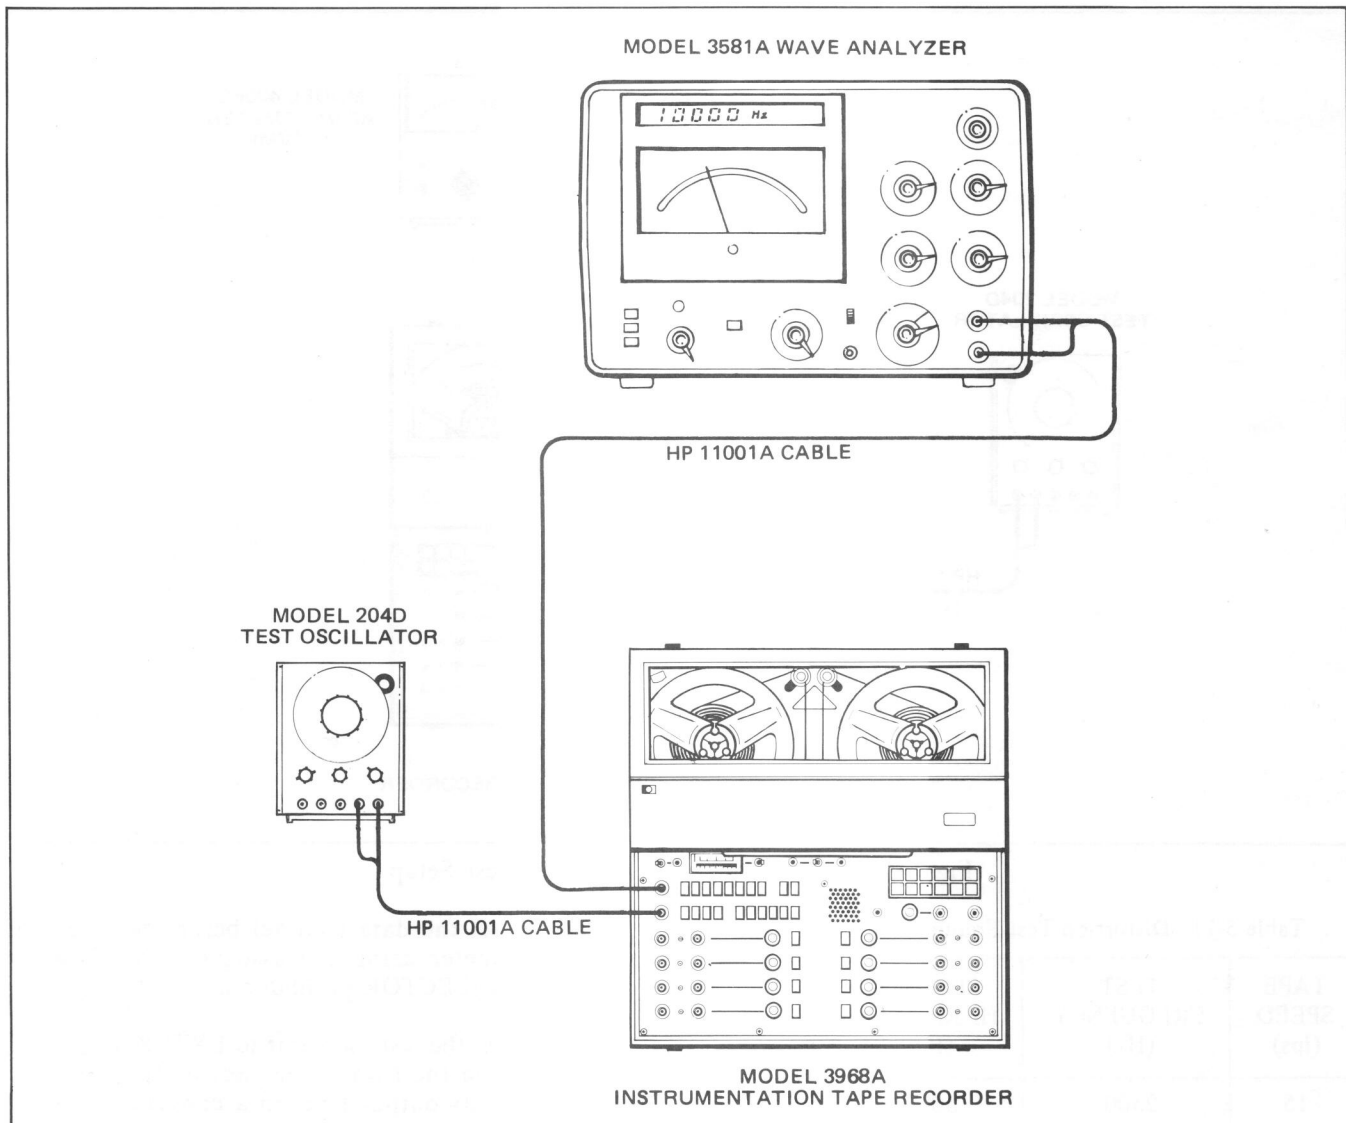

Figure 5-8. FM Distortion Test Setup
- g. Connect the test oscillator to EXTERNAL CAL INPUT jack on the front panel. Set its frequency to 2500 Hz and its output level to a convenient value, constant for the tests (see Figure 5-8).